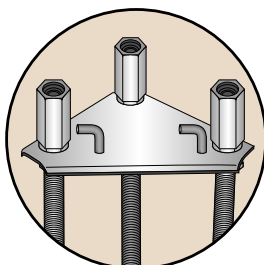
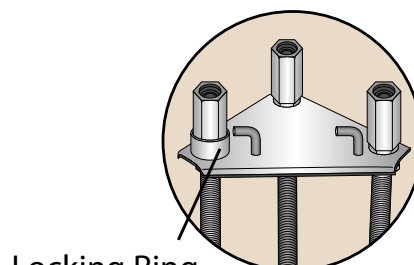

Fig 2,
Fig 3,
2. Connect the 3 long nuts as shown. (See Fig 2). Place the flagstaff locking ring over the long nut next to the flagstaff hinge lug as shown (See Fig 3)